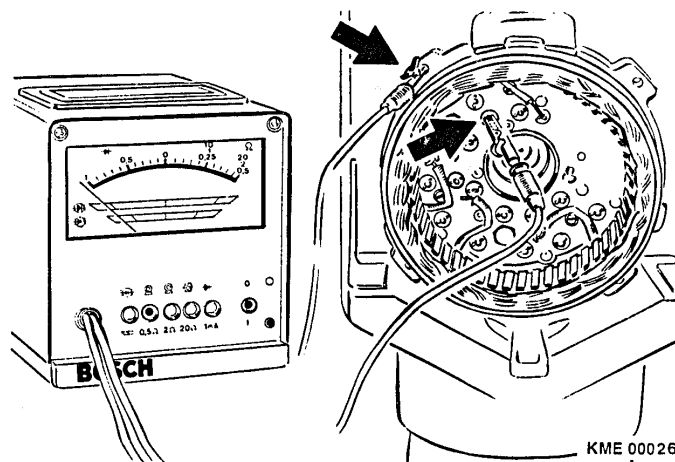

Figure 11 Testing of Rectifier Assembly
- a. **Using tester WPG 012.00 (Bosch Number 0 684 201 200) (Figure 11)**